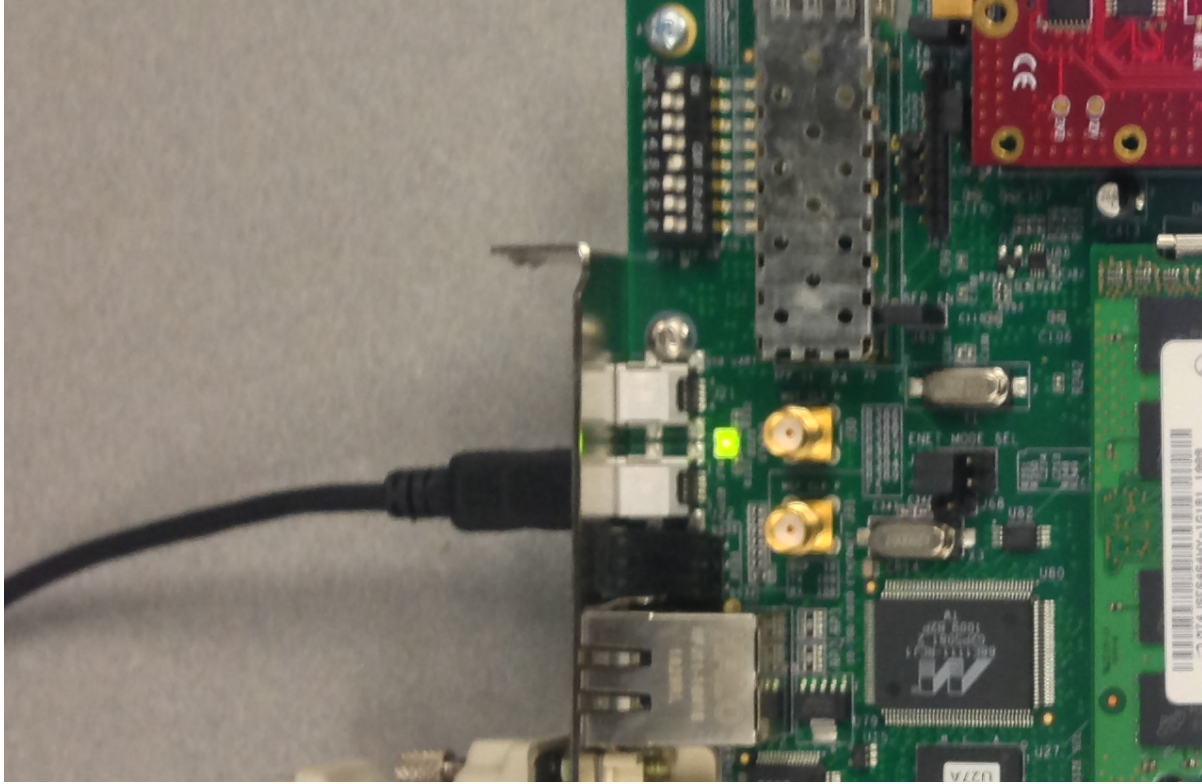

Figure 4 – Connect a mini-B USB cable to the ML605 board and connect the other end to the PC with ISE currently running.
3. Connect a mini-B USB cable to the USB female J22 on the ML605 labeled JTAG (As shown in Figure 4). Connect the other end to your computer.
5. Set the oscilloscope to display the waveform to verify proper connection. Using the Auto Set feature on the oscilloscope should provide you with a decent-viewable window of the signal from the function generator (*See Figure 4*).